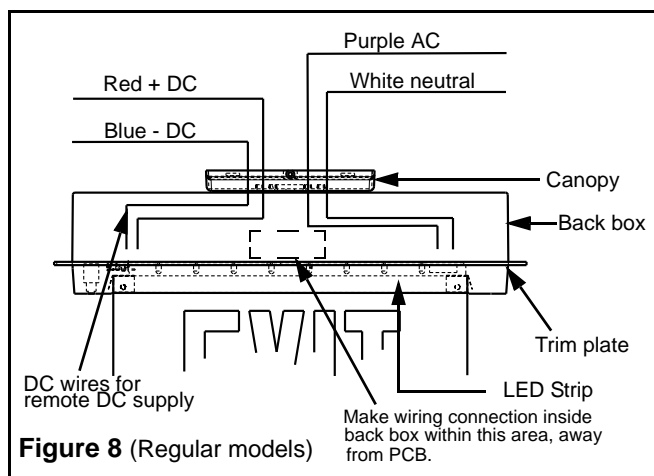
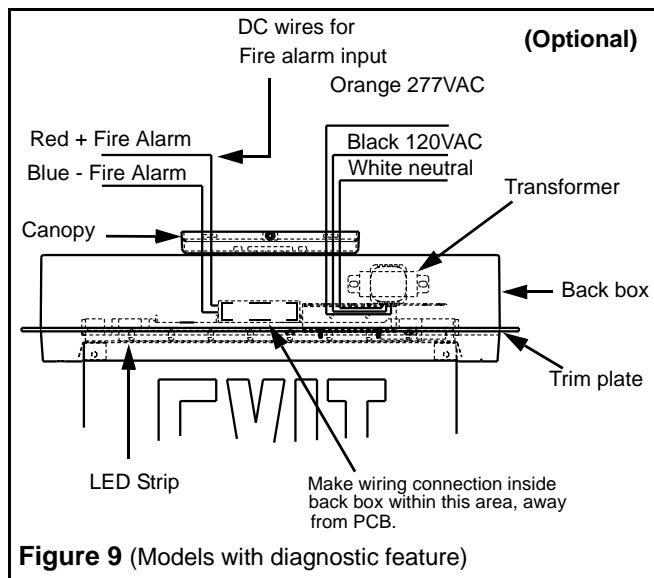

Figure 8 (Regular models)
Figure 9 (Models with diagnostic feature)
IMPORTANT: Wiring connections need to be done away from PCBA and in designated area as shown in figure 8 or 9.
- 4. **Electrical connection (Figures 8,9)**
- a. Make the proper connections. The system can accept input voltages of 120 VAC to 347 VAC. For regular models connect the purple (hot) and white (common) leads to the building utility (Figure 8). For models with diagnostic feature connect the white (common) and black (120 VAC) or orange (277 VAC) leads to the building utility (Figure 9).